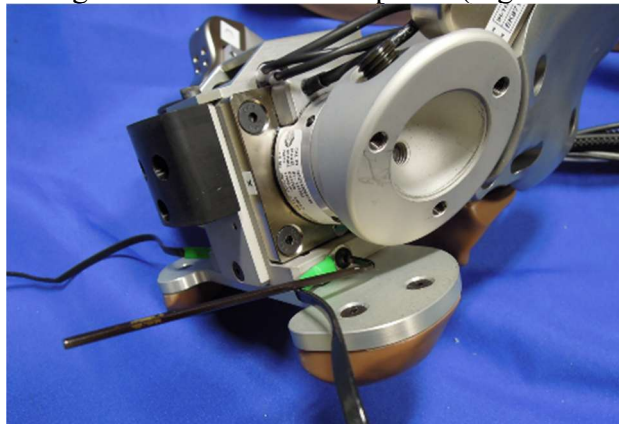

Figure 8-10. Remove the ground cables from the pelvis
- 8.2.6 Remove the ground cables from the pelvis (Figure 8-10).